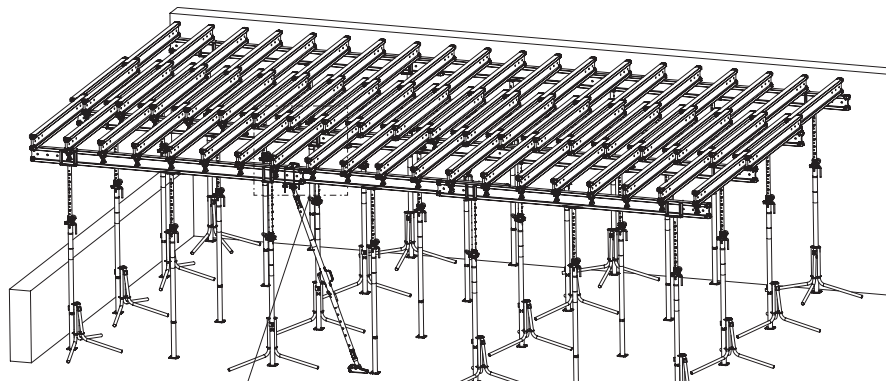
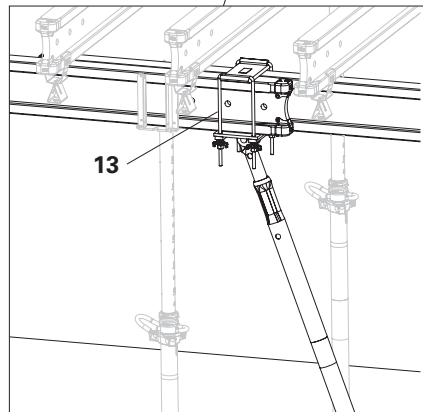

Fig. A6.05
Fig. A6.05a
The Girder Headpiece GT 24 / VT 20 (13) is used to attach push-pull props to Double Ledgers GT 24 / VT 20. (Fig. A6.05 + Fig. A6.05a + Fig. A6.05b)